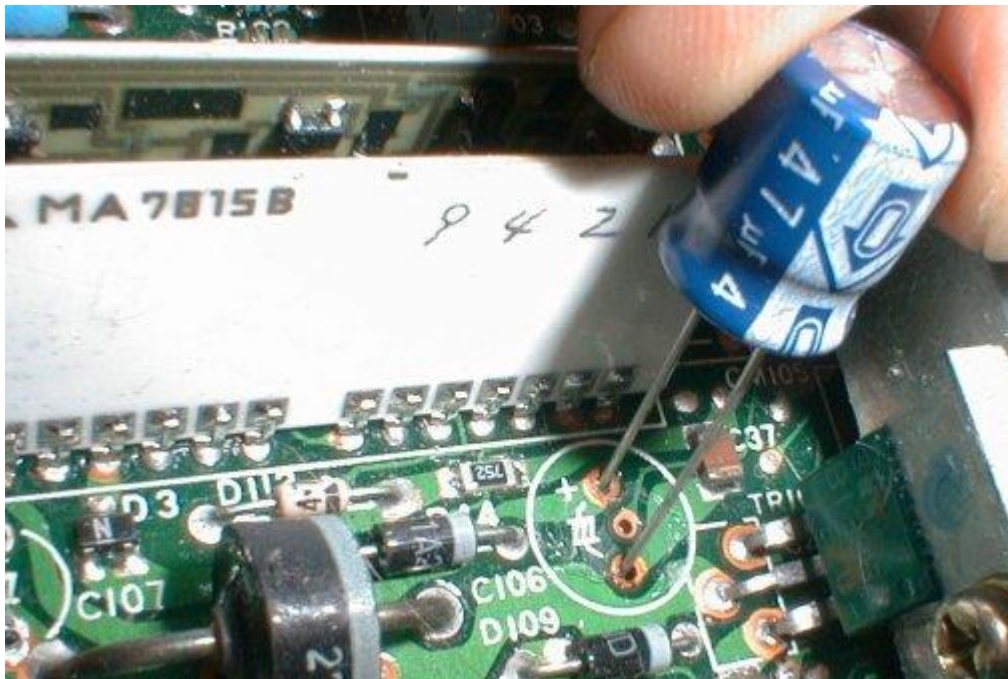

Figure 8
12. **Install the Capacitors.** It is **EXTREMELY IMPORTANT** that you install the capacitors with the correct polarity. If you do not, the capacitors might explode, doing who knows what damage to the board. In **Figure 8**, on the capacitor, you can clearly see the negative sign inside of the arrow pointing to the lead that is negative. Note that the hole on the ECU PC board which the negative lead is going into is **NOT** marked with a "plus sign". Only the positive hole is marked on the ECU. Be sure to put the negative lead in the opposite hole. After you push the capacitor all the way down, take the leads on the bottom and bend them outward as they were from the factory. This will hold them in place for soldering.